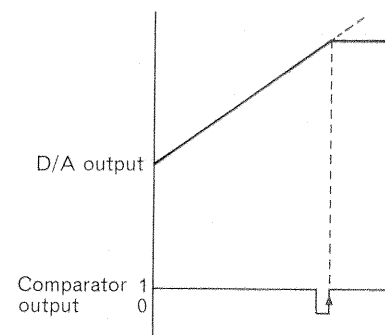

Fig. 18
④ D/A control
5-bit data is supplied to IC501R to form a programmable comparison voltage to PLAY input signal of comparator (IC801), and D/A converted DC output is supplied to the comparator through terminal (14). The comparison output between PLAY input and D/A is read every time the 5-bit data increases by 1 step. Data is added until both input voltages shown in Fig. 18 coincide, the comparison output is set to Lo potential and then reaches Hi potential again.